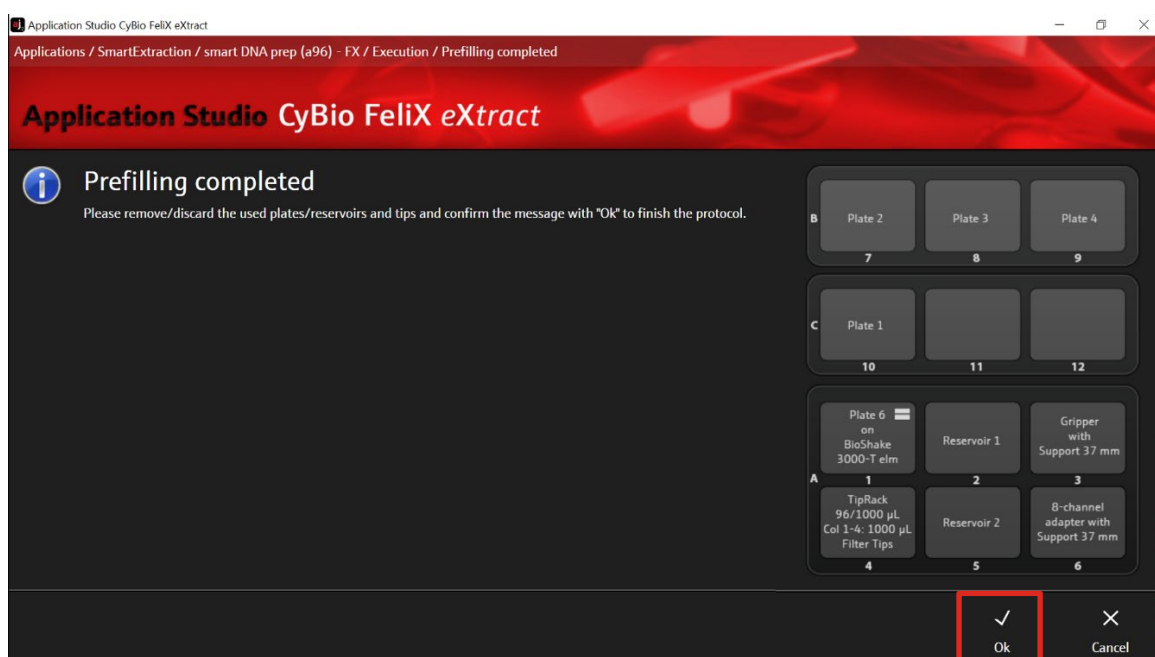

Figure 9: The prefilling process is completed.
18. The chosen protocol is performed by the device. After the protocol is finished, the message "Prefilling completed" is shown. Confirm the message with "Ok" (→ see Figure 9).